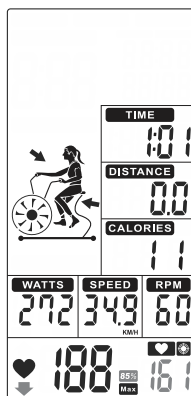

FIGURE 48
5. When Heart Rate exceeds to 85%, and **85%** value will flash. And buzzer sounds in every 10s until user HR achieve above 65%(Figure 48).